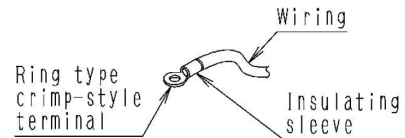

Fig. 13
- For connection to the terminal block, use ring type crimp style terminals with insulation sleeve or treat the wiring with insulation. (Refer to fig.13)